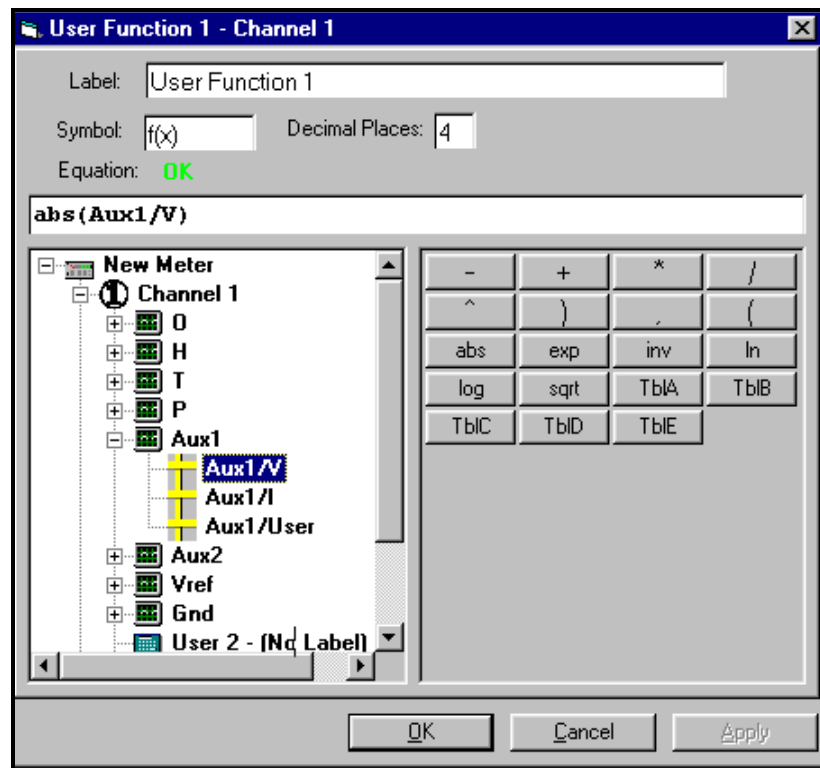

Figure 4-7: The User Function Window
2. Click on “*User Functions*,” and then double-click on the desired function (1 to 4). The right side of the screen will appear similar to Figure 4-7 below.